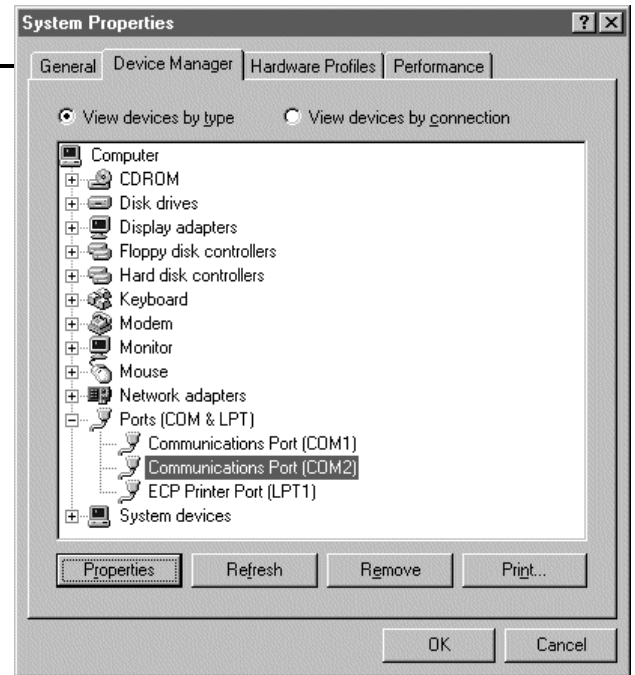

Figure 2-3: System Properties Dialog Box
6. The relevant screen is shown in Figure 2-3.